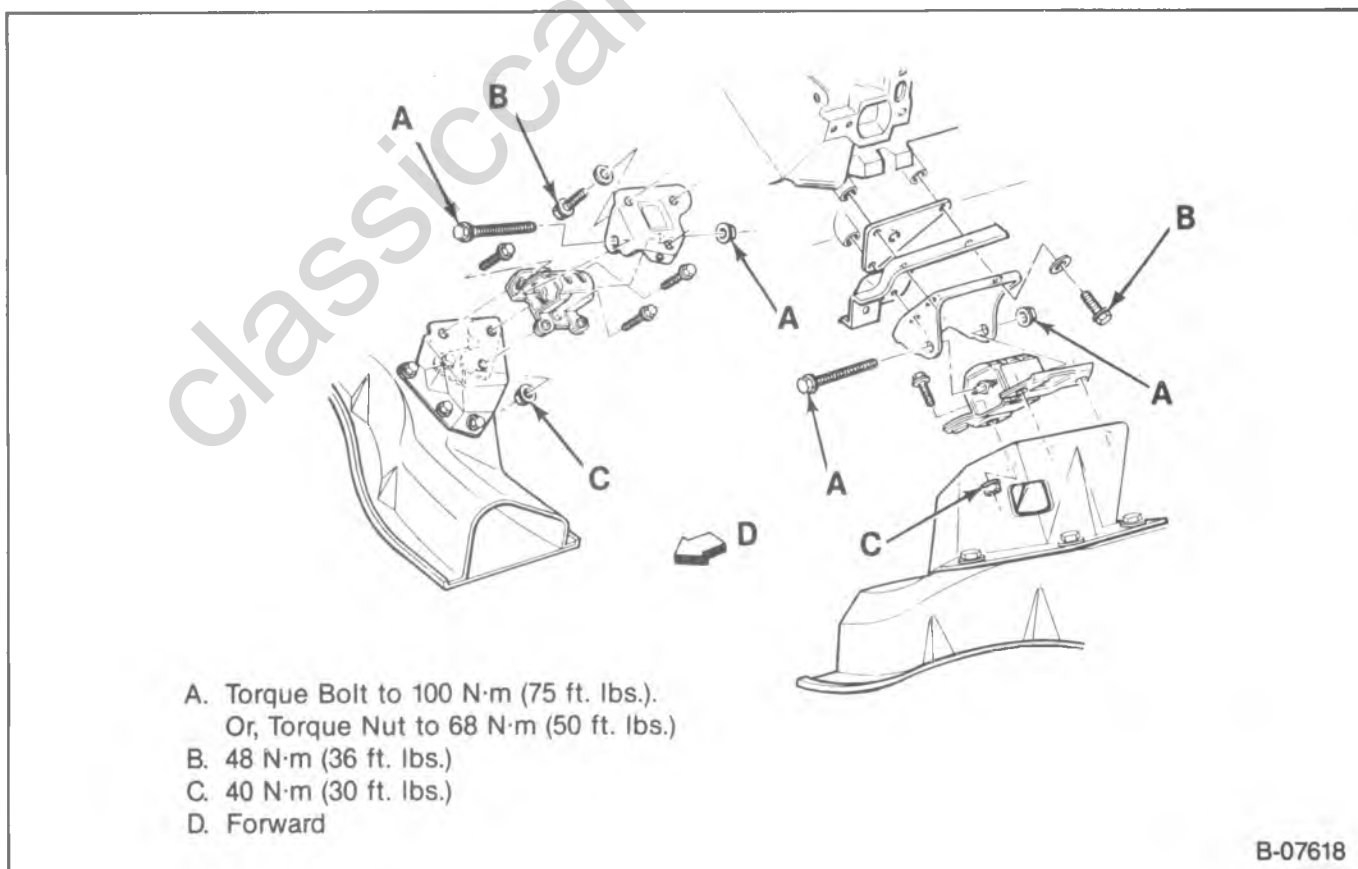

Figure 37—Front Engine Mounting (G Models)
**Install or Connect (Figure 37)**
- Through-bolts or nuts to specifications. Refer to figure 37.